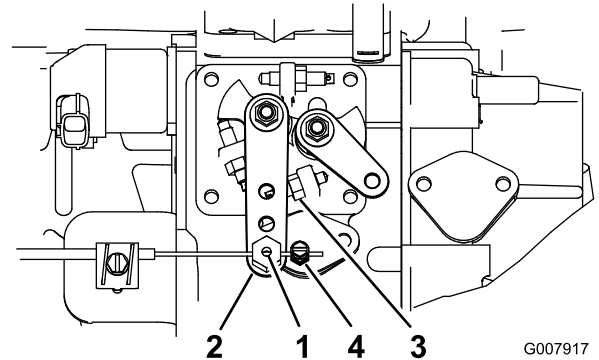

Figure 53
2. Loosen the throttle cable connector, on the throttle cable, next to the injection-pump lever (Figure 53).
3. Hold the injection-pump-lever arm against the high-idle stop (Figure 53).